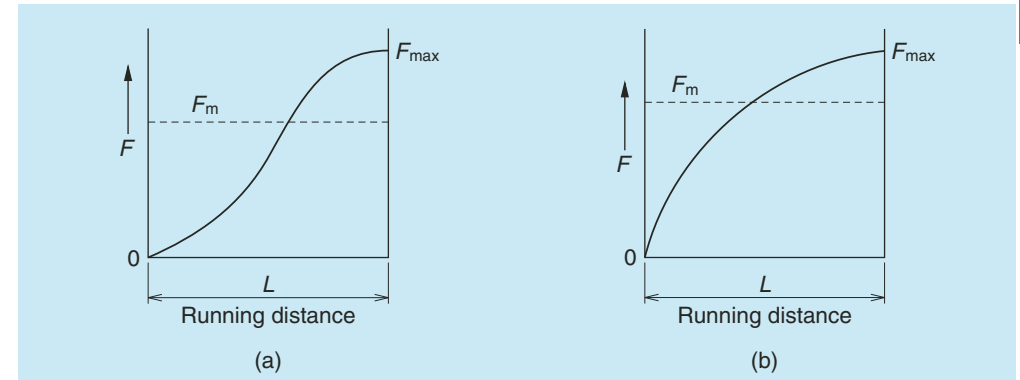

Fig. 2.5 Load that changes in sinusoidal pattern
##### (3) When load changes in sinusoidal pattern (Fig. 2.5)